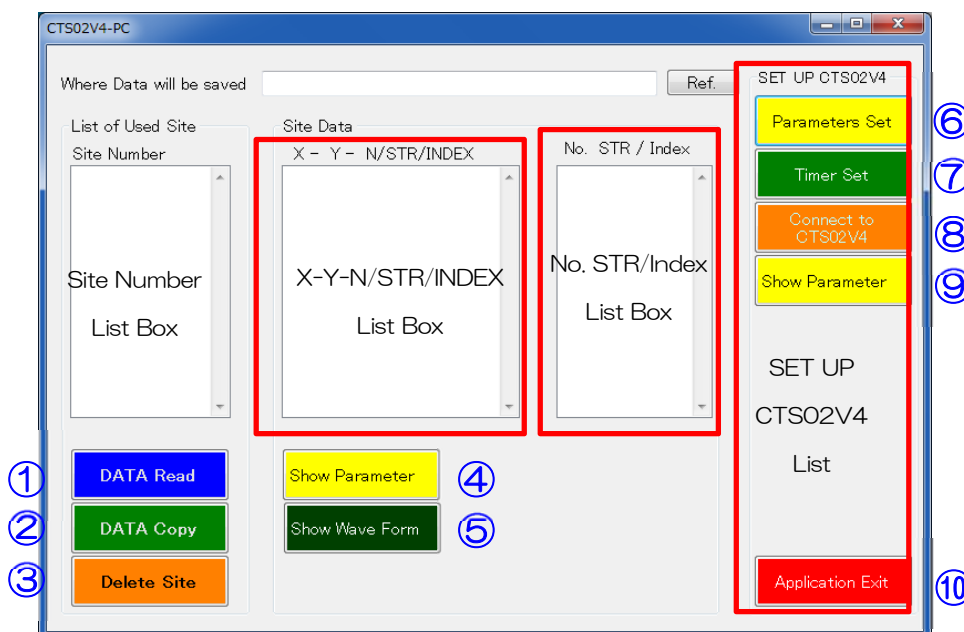

Fig.5.1-1 Initial Screen for Start-up
- The initial screen is shown below (See Fig.5.1-1).